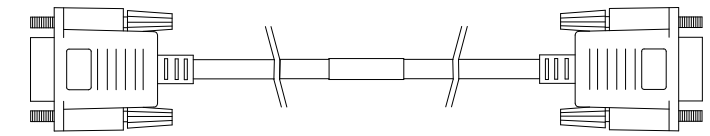

Figure 3: User-Supplied Null-Modem Cable Example
- A null-modem cable (see *Figure 3*)